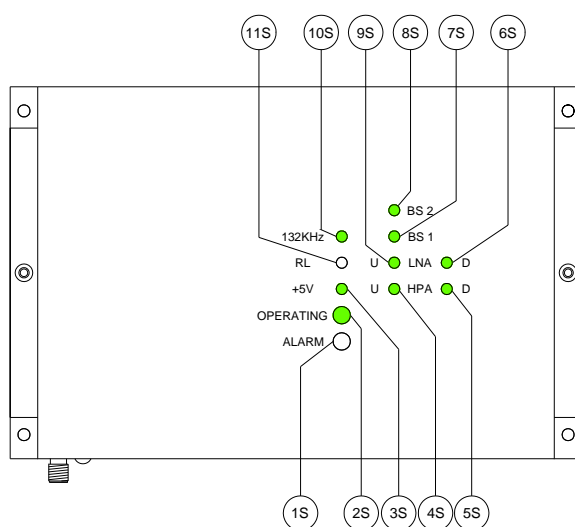

FIGURE 4 – MANAGEMENT MODULE: LEDS STATUS - CORRECT POWER UP
3. Check the LEDs status on the management module: FIGURE 4 and Table 3 show LEDs status on the management module under normal operating conditions.